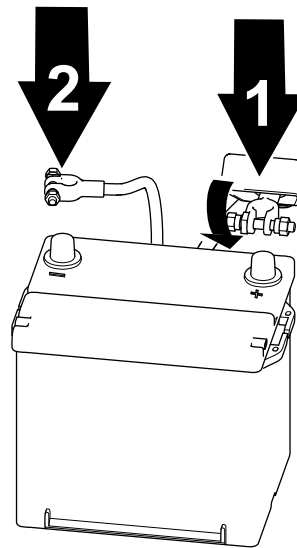

Figure 60
1. Connect the positive cable to the battery and tighten the battery-clamp nut (Figure 60).
2. Connect the negative cable to the battery and tighten the battery-clamp nut (Figure 60).